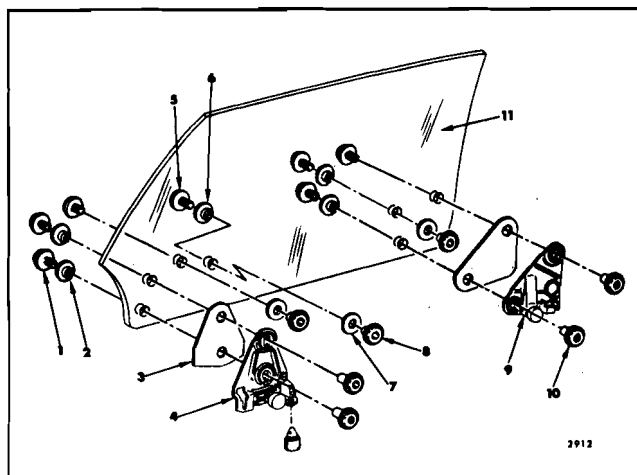
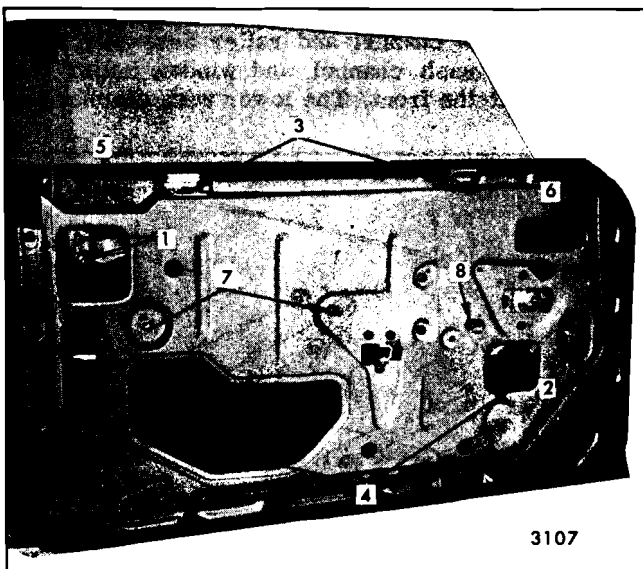

Fig. 6-96—Front Door Window Assembly - "F" Styles
Fig. 6-97—Door Window Removal and Adjustment - "F" Styles
Figure 6-96 is an exploded view of the window assembly and identifies the various components and their assembly sequence.
2. With window in full-up position, remove rear up-stop from rear guide ("1", Figure 6-97 and front up-stop from front lower sash channel ("2", Figure 6-97).
3. Loosen front and rear stabilizer strips ("3", Figure 6-97 and front and rear guide upper bolts ("5" and "6", Figure 6-97).
4. Lower window to full down position, remove lower sash channel cam to glass attaching nuts ("4", Figure 6-97). Remove window by lifting straight-up, tilting slightly inboard to disengage rollers from guides. Slide window forward and remove rear roller forward of stabilizer strip.
1. In and out adjustment of the glass is controlled by the in and out adjustment available at the top of the front and rear guide ("6" and "5", Figure 6-97) and the in and out position of the glass stabilizer strip assemblies "3".
2. Fore and aft adjustment of the window assembly is controlled by the position of the rear guide. The upper attaching locations in the inner panel ("5", Figure 6-97) are slotted to permit fore and aft adjustment of the guide. Because of the free floating roller in the window front sash channel cam (Figure 6-96), the front guide does not have to be adjusted during fore or aft window alignment.
3. Ease of window operation and window stability depend to a great extent on the adjustment of the window stabilizer strip assemblies at the beltline ("3", Figure 6-97). The stabilizing strips should contact the glass throughout the full cycle of the window. Due to slight variations in glass contour, however, in some cases the strip may lose contact with the glass halfway through the cycle. This is permissible provided it does not result in loose glass. Contact should be sufficient to stabilize glass, but not restrict ease of window operation.
4. A window that is rotated (cocked) in the window opening may be the result of an improperly adjusted inner panel cam ("7", Figure 6-97) or poorly adjusted up-travel stops ("1" or "2", Figure 6-97).
5. The up-travel of the window is determined by the adjustment of the front up-stop "2", rear up-stop "1" and window regulator sector gear stop ("8", Figure 6-97).